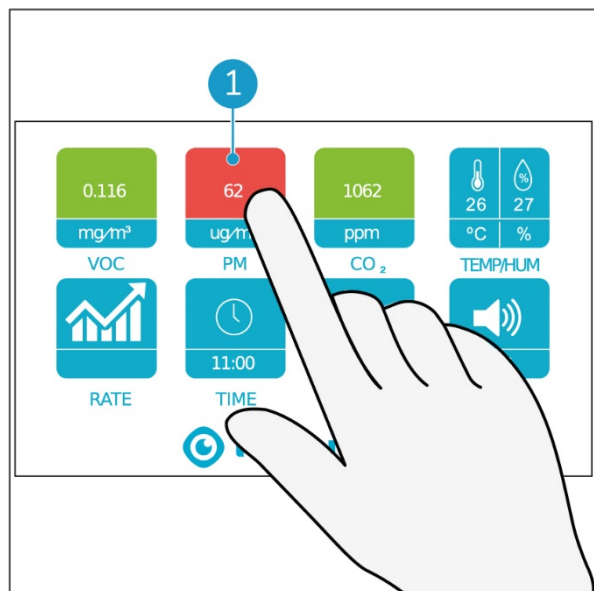

Figure 12
1. Touch the PM button (Figure 12, pos 1) with your finger.